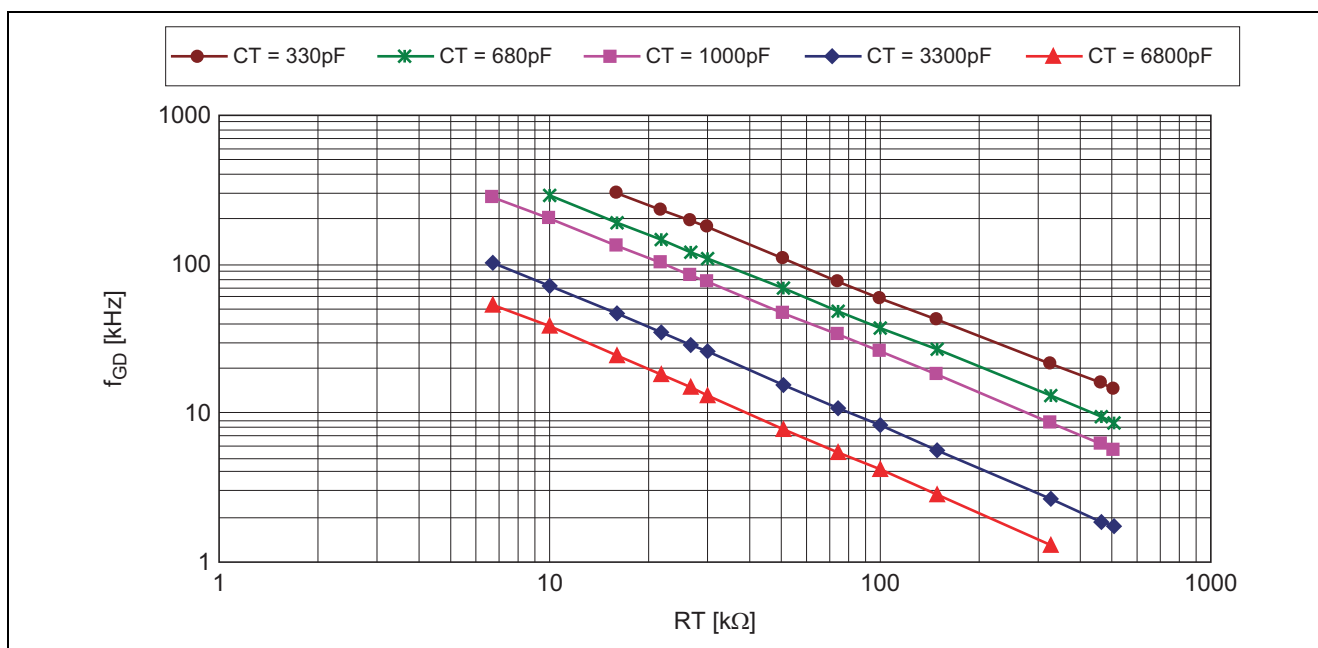

Figure 14 Operating Frequency Characteristics
The expression (6) is the formula that was similar so that an error of the range of each capacity value and the resistance value of figure 14.